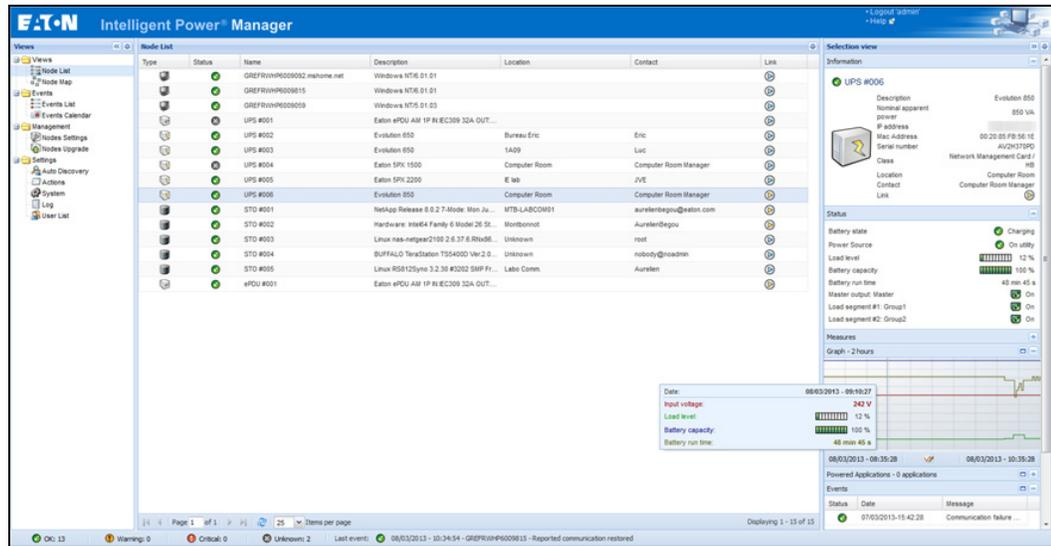

Figure 11. Node List Main Page
2. Select a line in the list and the panels are updated with selected device information (see Figure 11).